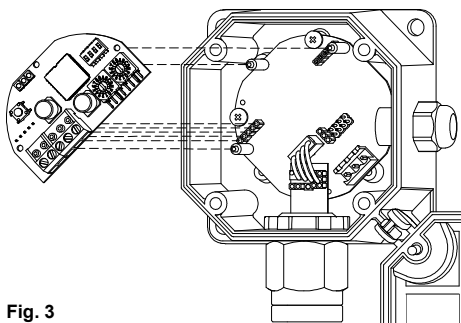
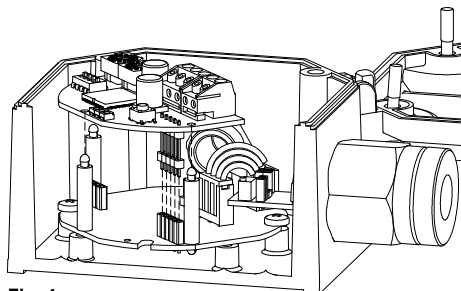

Fig. 3
Fig. 4
4. Insert the Modbus[®] interface in the transmitter as shown in Fig. 3, taking care that the three turrets, previously inserted in the transmitter, correspond to the holes on the interface board and that the interface pin strip corresponds to the connector on the basic transmitter board, as shown in Fig. 4.